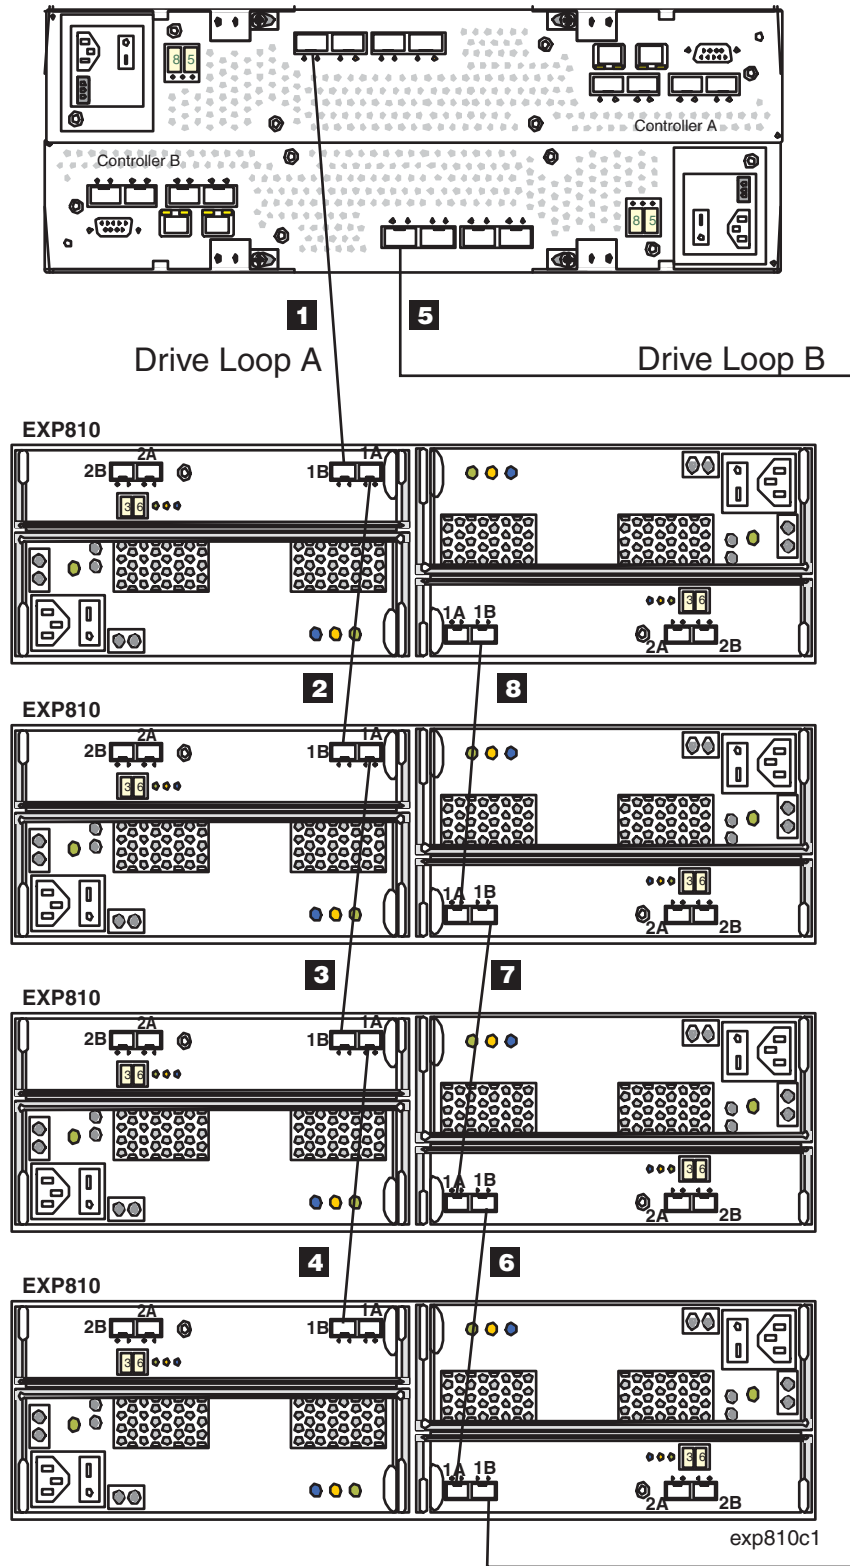

Figure 34. Correct EXP810 redundant drive loop configuration
- The controller drive ports of the DS4000 storage subsystem controllers must always be connected to the ports labeled 1B in both right and left ESMs of the EXP810s in the redundant drive channel/loop pair that is connected to the DS4000 storage subsystem. (Figure 34 on page 55 shows the location of the ports.)
Figure 34 on page 55 shows a redundant drive loop that you might create with a DS4800 Storage Subsystem and four EXP810s. The numbers provided in Figure 34 on page 55 show the order in which cables should be attached. Note that the controller port is connected to the port labeled 1B on both the right and left ESMs.
To create drive loop A (of the DS4800 redundant drive loop) shown in Figure 34, you would perform the following steps:
To create drive loop B (of the DS4800 redundant drive loop) shown in Figure 34 on page 55, you would perform the following steps: